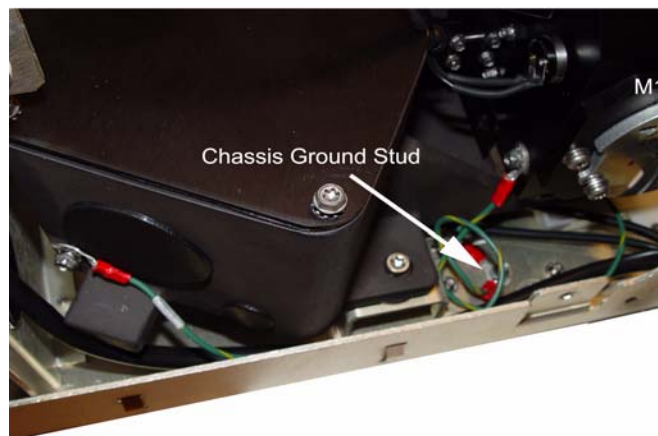

Figure 5 - Location of Chassis Ground Stud
13. Remove two optics bench ground cables where they connect to a ground stud on the chassis (Figure 5).